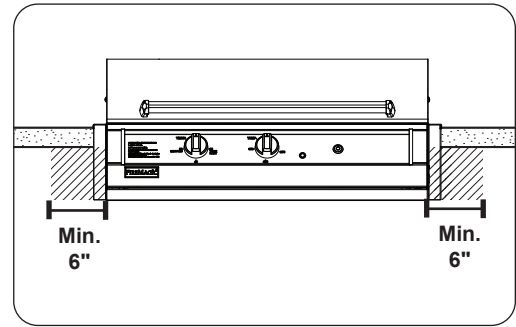

Fig. 18-1 Control panel clearances
- The control panel **MUST** have a minimum side clearance of 6" from any obstructions/side walls. See Fig. 18-1.